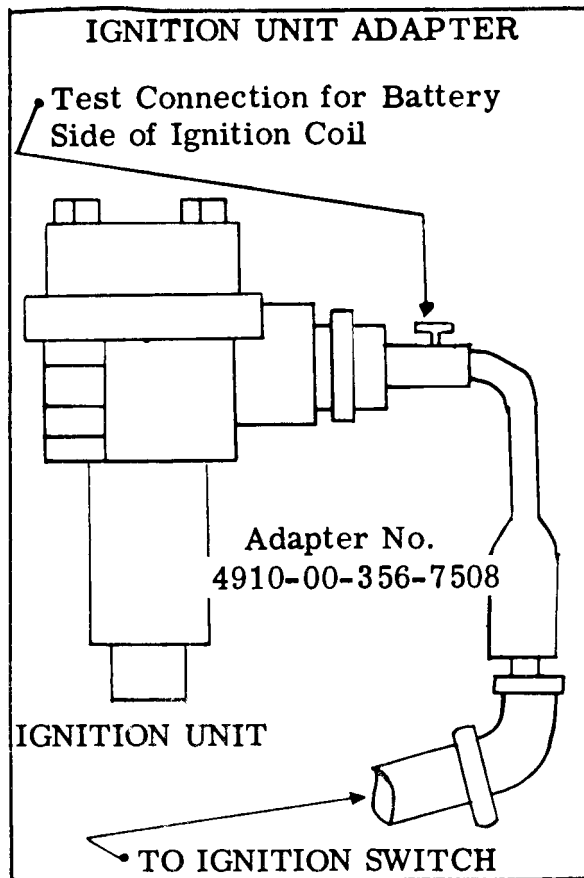

Figure 4. Ignition unit adapter (4910-00-356-7508).
- (1) Remove cable to ignition unit and connect ignition unit adapter to exposed connector socket on ignition unit (fig 4).